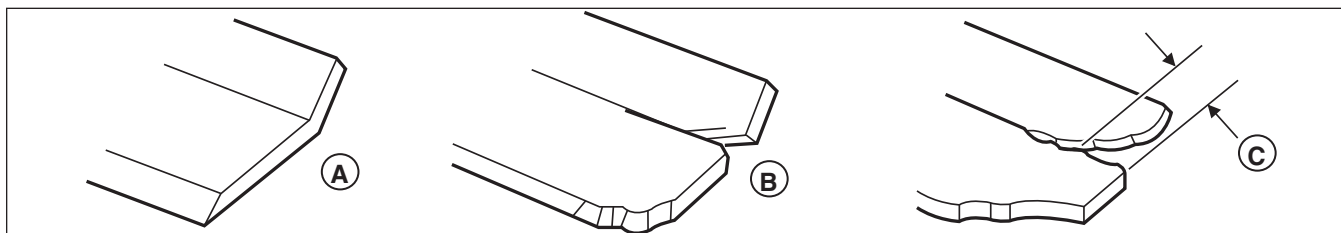

Figure 20. Inspecting the Mower Blade Air Lifts
- B.) The air lifts are excessively eroded (B & C, Figure 20) and the notch (C) is .25" (6,35 mm) deep or greater.